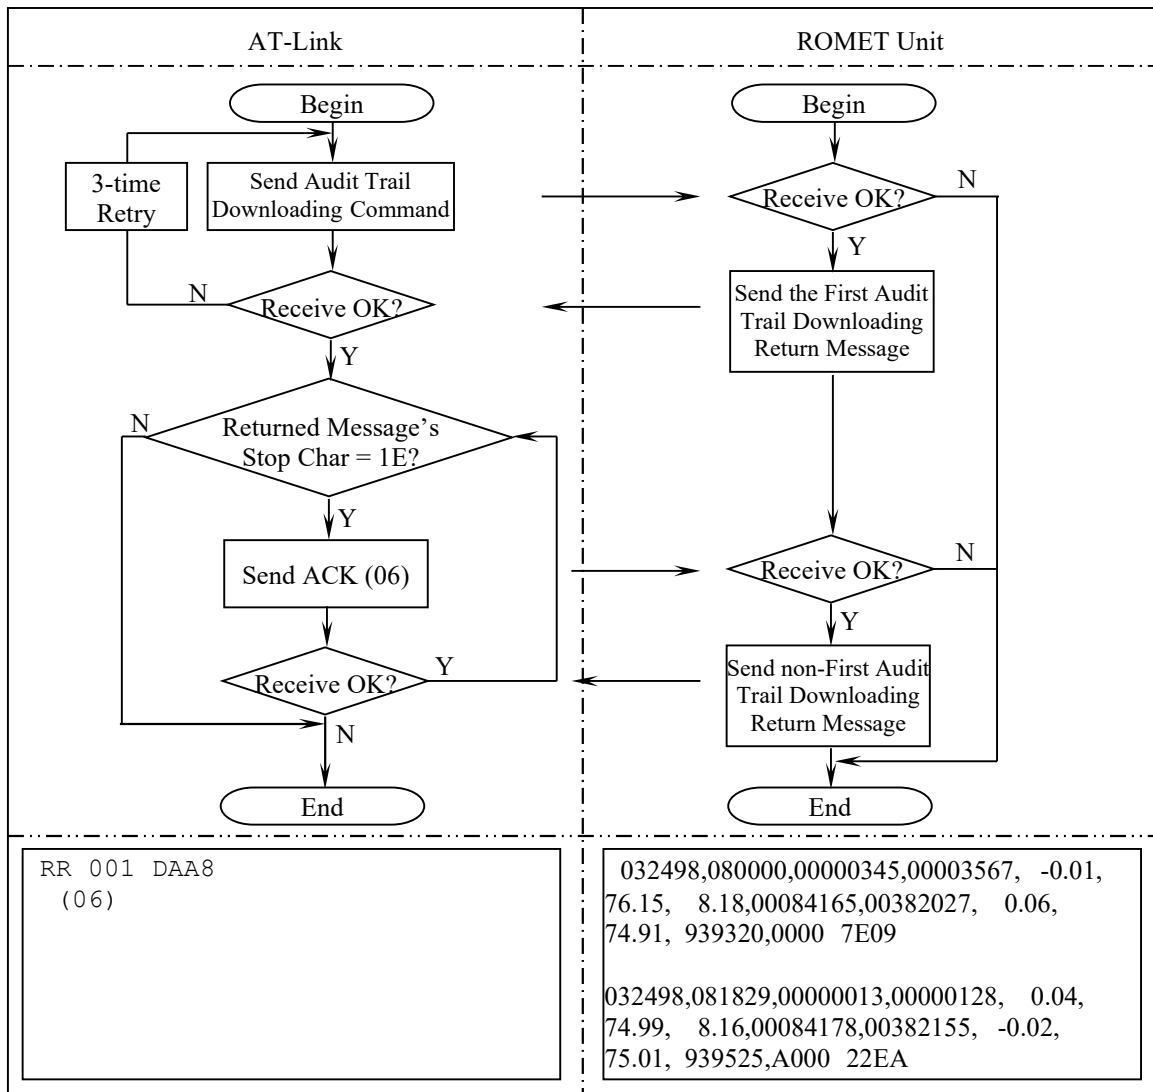

Figure 7-6. Audit Trail Downloading Flow Chart
shows, this message is comprised of 14 fields from F1 to F14. Each field's meaning is shown in the following table (please check the message shown in the figure 7-6, Audit Trail Downloading Flow Chart, as an example).
7.7 Audit Trail Downloading (Figure 7-6, **Obsolete**)
In the example shown as the figure 7-6, the ROMETLink sends the Audit Trail Downloading Command to request 1-day records. The ROMET Unit responds this command by returning the first Audit Trail Downloading Return Message, which has SOH (01) as the start char and RS (1E) as the stop char. After check the stop char in the returned message, the ROMETLink knows that this returned record is not the last, so it sends ACK (06) to ask one more Audit Trail record. The ROMET Unit returns the next Audit Trail Downloading Return Message, which does not have the start char and has EOT (04) as the stop char. After check the stop char in the returned message, the ROMETLink knows that this is the last, so the ROMETLink finishes the downloading procedure at once after receiving this record.